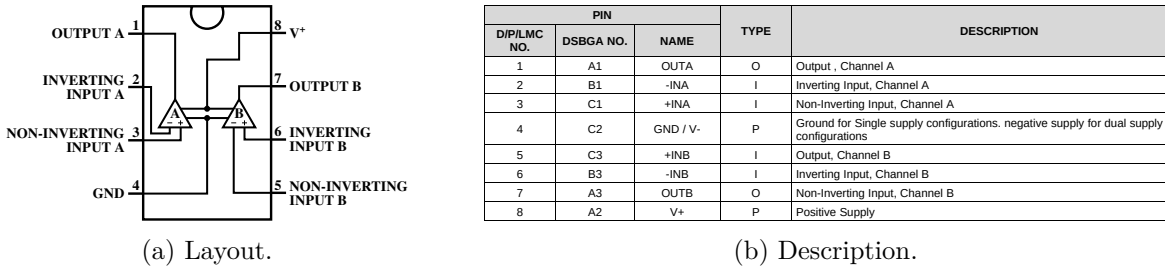

Figure 16: Pin layout and descriptions of the LM358 op-amp [11].
**Build a voltage divider circuit on the breadboard to convert the resistance of the thermistor into a measurable voltage. Use the an op-amp as a voltage follower with gain 1 to amplify this voltage signal (see Figure 16). Reproduce the temperature measurements from subsection 3.7.**